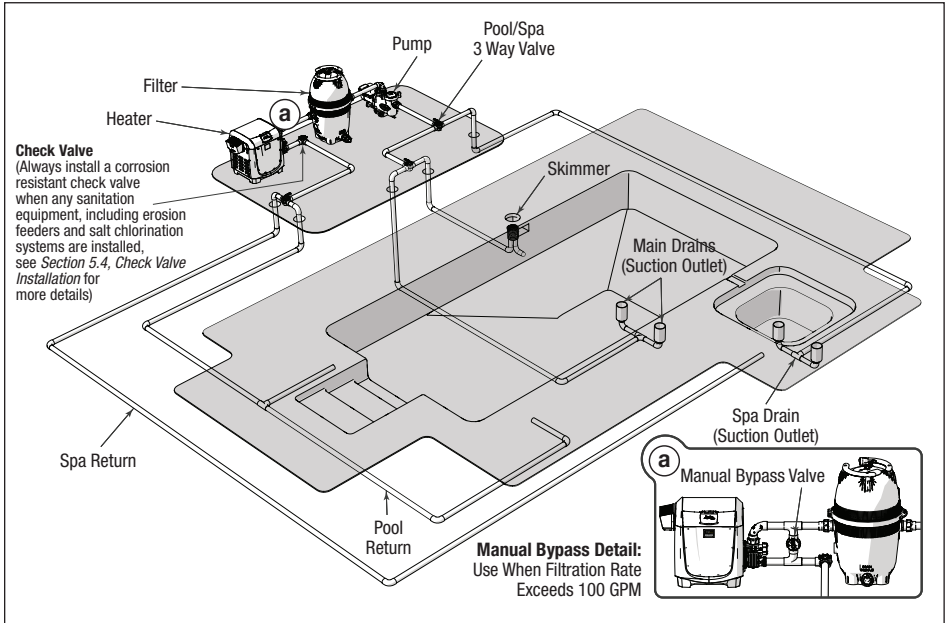

Figure 9. Typical Water Piping Configuration
Install pool system components with connections as illustrated in *Figure 9*. Any configuration other than as illustrated in *Figure 9* can affect the operation of the water pressure switch. Locating the heater above or below the pool water surface can also affect operation of the water pressure switch.
- Connect a valve between the water inlet and outlet. See inset “a.” in *Figure 9*.